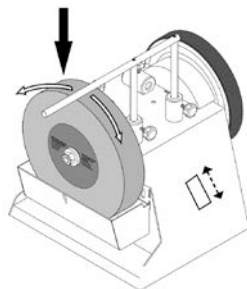

Fig. 4
2.1 Install vertically for grinding against the wheel rotation (Fig. 4)